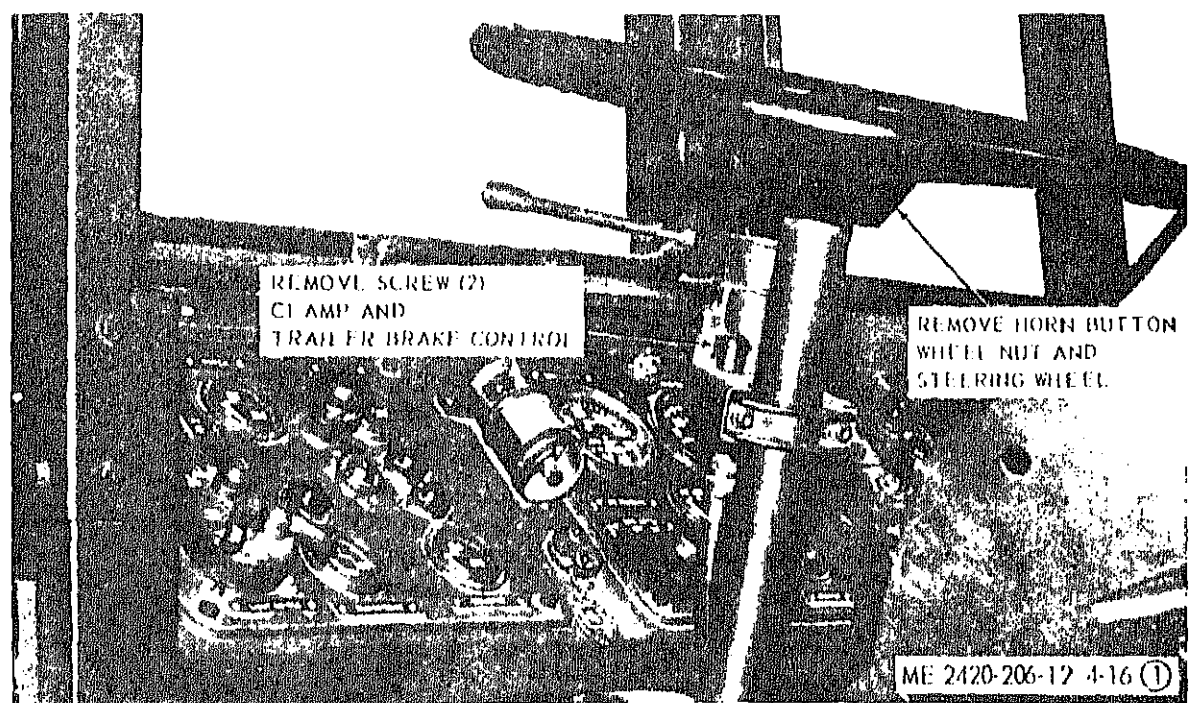

Figure 4-16. Steering wheel, trailer brake control, removal and installation. (sheet 1 of 2).
a. *Removal.* Remove steering wheel and trailer brake control as illustrated in figure 4-16. Remove screws (9) from retainer (10), pry simultaneously with two small screwdrivers on opposite edges of
- (1) Clean parts and dry thoroughly.
- (2) Inspect for cracks, breaks and other damage. Replace defective parts as necessary.
c. *Installation.* Install steering wheel and trailer brake control in reverse order of removal, figure 4-16.
- (1) Park tractor in a straight direction.
- (2) Remove floorplate beside steering column. Remove nut (2) that secures ball stud (4) of the drag link to the pitman arm (21) of steering gear (22). Disengage ball stud from pitman arm.
(3) With engine off, turn steering wheel gently until it stops at its limit of rotation in either